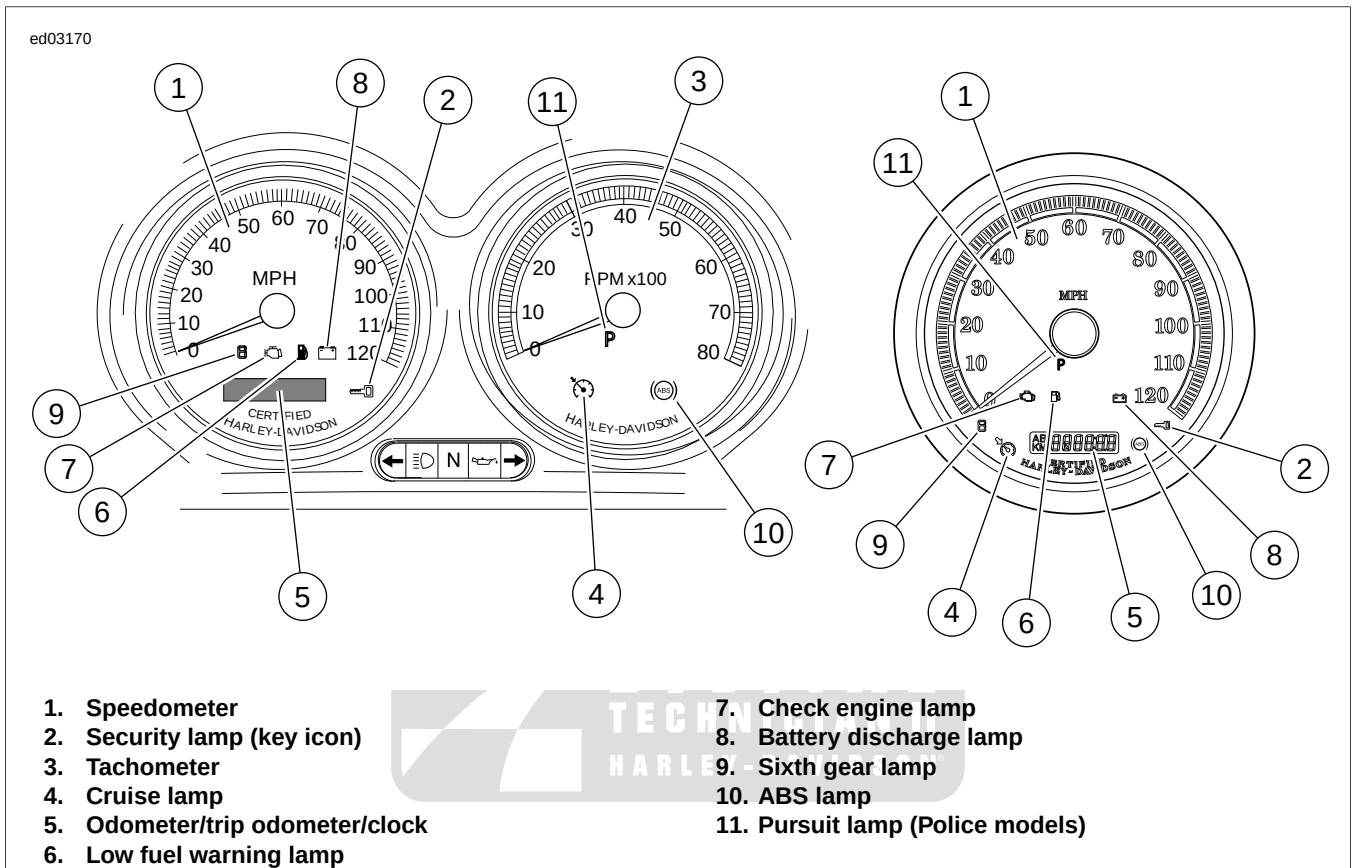

Figure 5-27. Speedometer
- **Security lamp:** See Figure 5-27. The security lamp (key icon) tells the rider if the system is armed or disarmed.